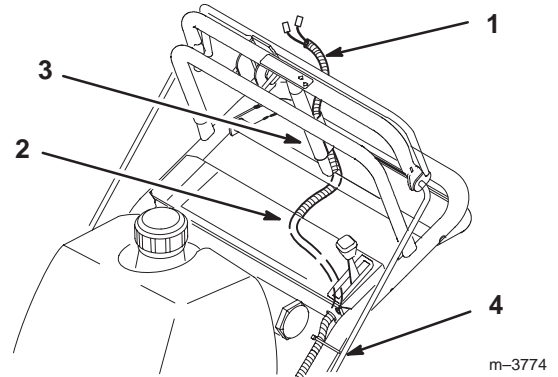

Figure 4
4. Route wire harness inside of frame, along left handle and over throttle cable. Compress wire harness covering and press into lower and upper holes in rear of control panel (Fig. 4).
5. Thread harness up through rear tube of traction handle (Fig. 4).
8. Secure wire harness and throttle cable to left handle, away from PTO lever, with a wire tie (Fig. 4).